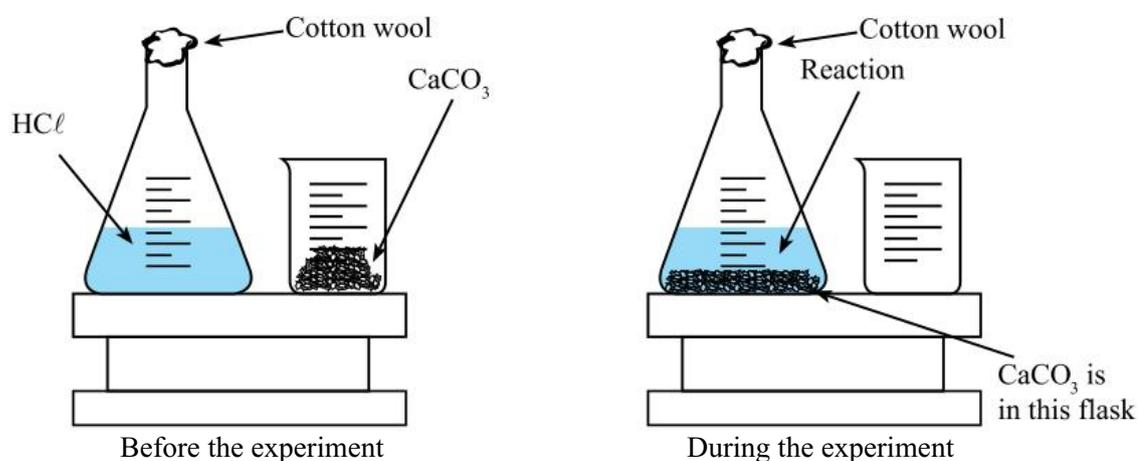

Figure 1.1 Experiment setup
6. Record the mass of the full setup (see Figure 1.1) every 30 seconds.